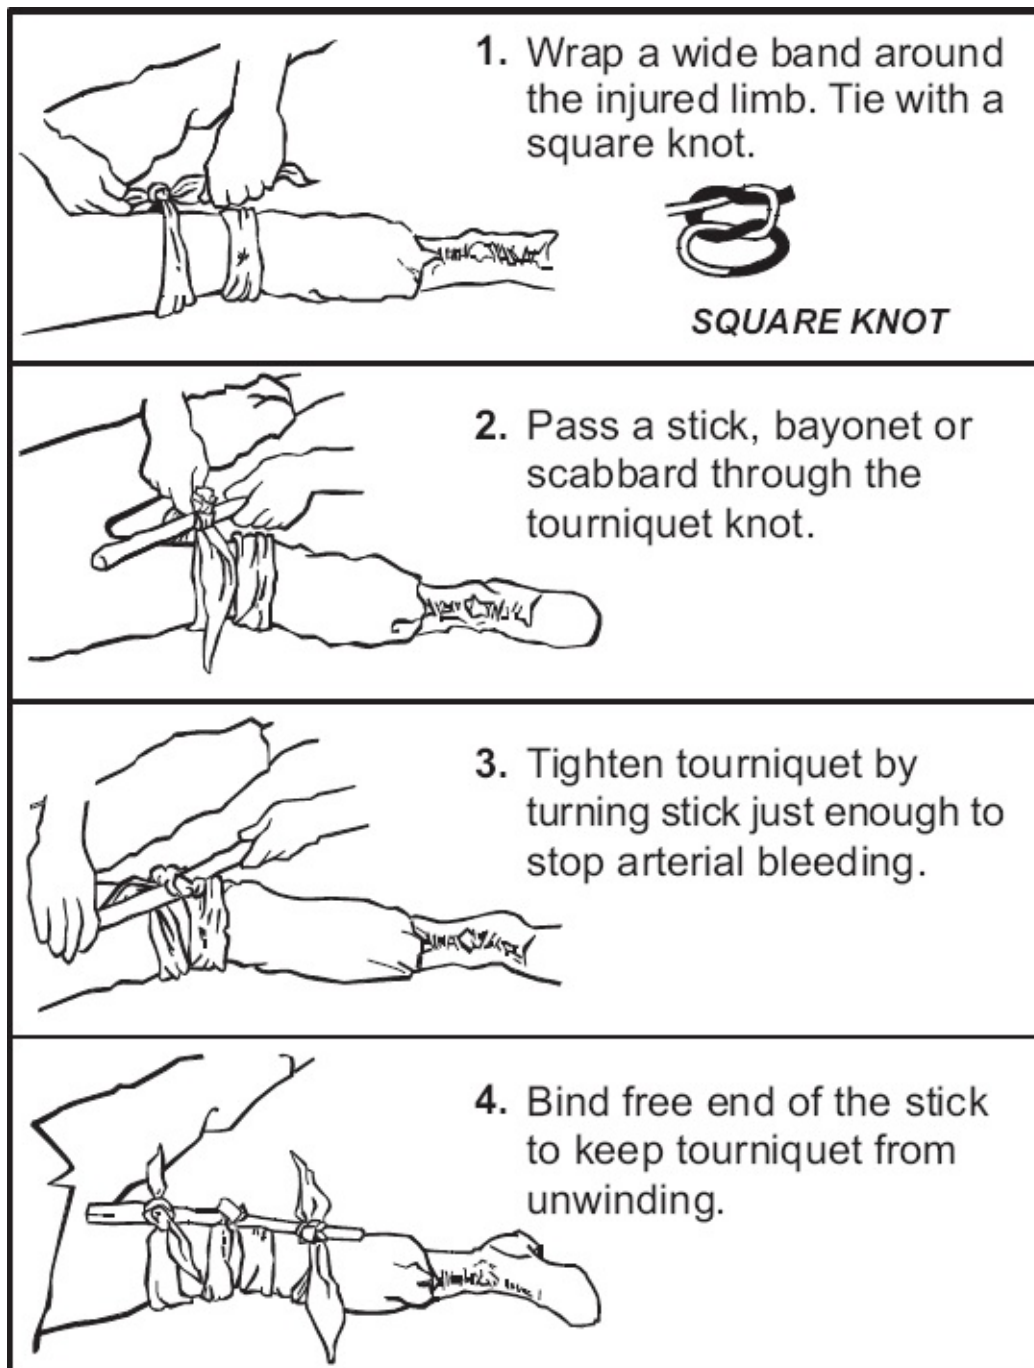

Figure 5-4. Application of a tourniquet
- (a) Apply tourniquet (TK) band just above bleeding site on limb. A band at least 3 inches (7.5 cm) or wider is best.
- (b) Follow steps illustrated in **Figure 5-4**.